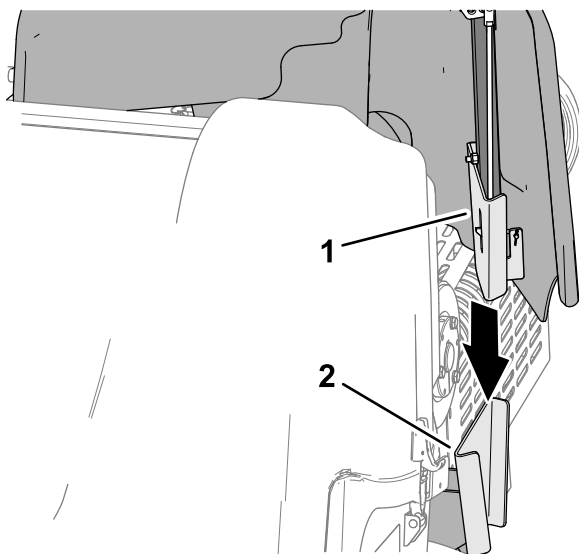

Figure 133
1. Align the mount bracket of the belt cover with the cover-support bracket of the machine frame (Figure 133).